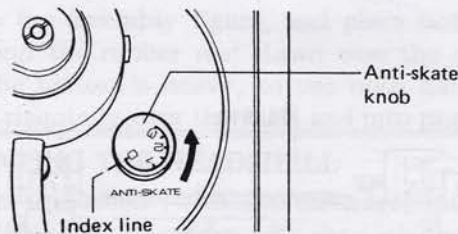

Fig. 11
2. Rotate the ANTI-SKATE knob and set the "0" to the index line (Fig. 11).